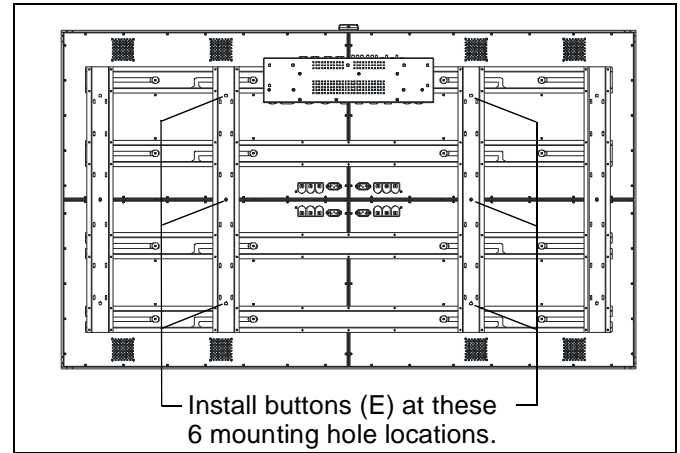
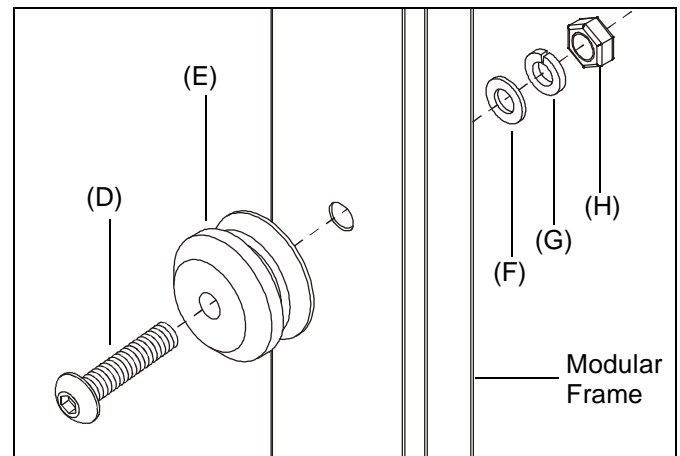

Figure 2
Figure 3
1. Insert M8x25mm button head cap screw (D) through mounting button (E) and frame on back of modular display (See Figure 2)(See Figure 3). Using M5 hex key (K) and 13mm wrench, install M8 washer (F), M8 lock washer (G), and M8 nut (H). Tighten securely.